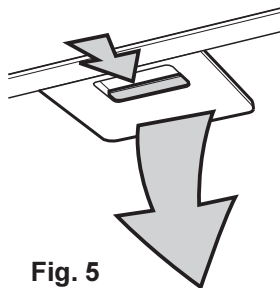

Fig. 5
- First, push the metal grease filter stop backwards, then extract the filter, pulling downwards. **Fig. 5.**